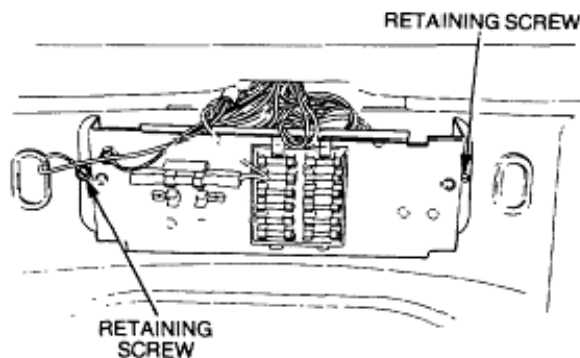

Figure 173 Fuse Panel Removal
- c. Remove the two screws securing the fuse panel to the firewall (Figure 173) and move the panel away.